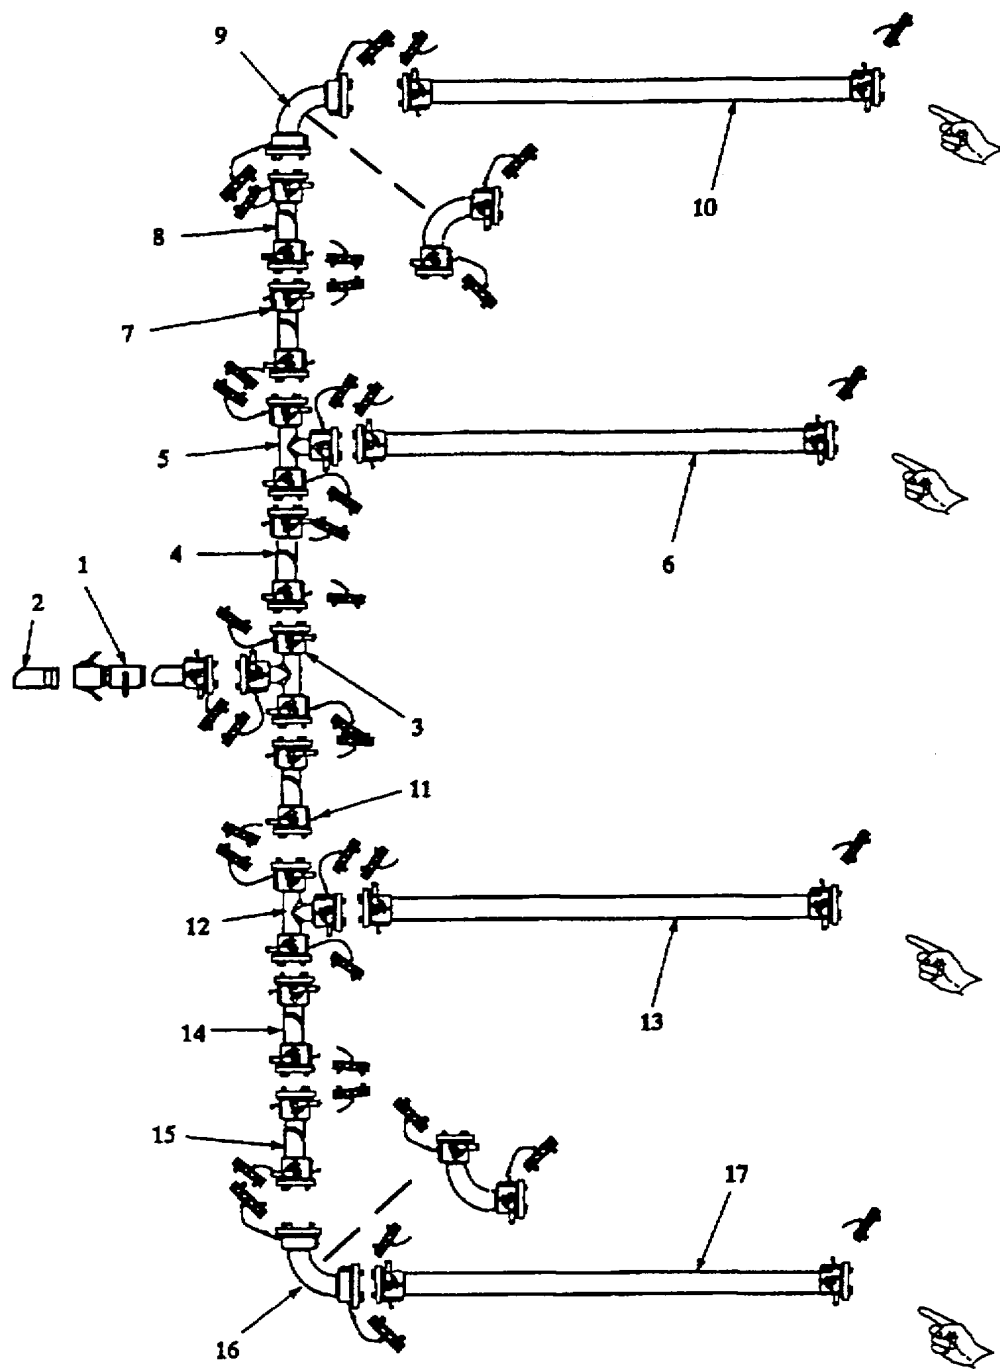

Figure 2-10. Fuel Hose Assembly.
- g. Fuel Hose Assembly. Refer to figure 2-10.